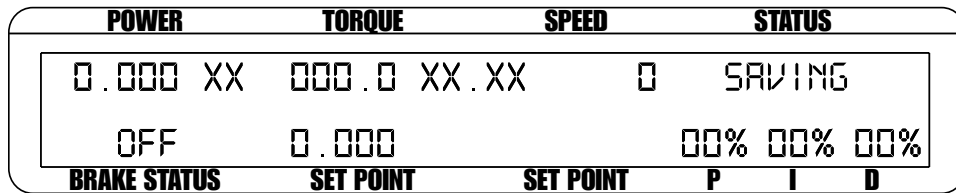

Figure 2–3 Saving Function Menu
1. Press the SHIFT button two times. The word “SAVING” will appear in the display, as shown in *Figure 2–3 Saving Function Menu*.